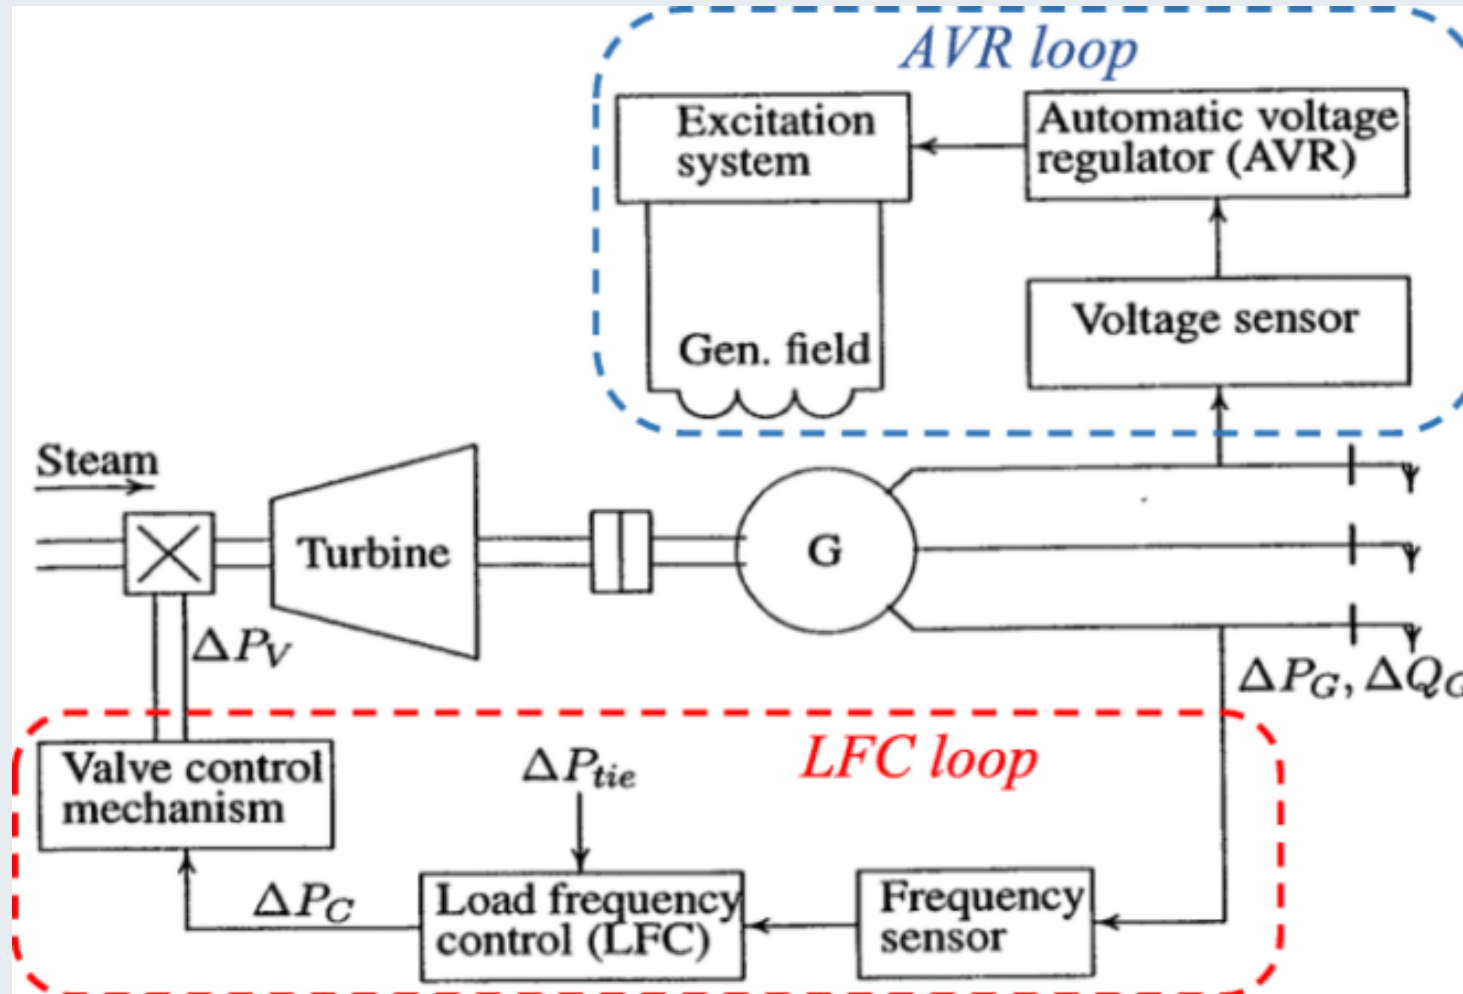

Figure 1. AVR control loop.
- DC excitation, AC excitation or Brushless excitation scheme is to feed the field winding with direct current so that the main flux in the rotor is generated, which is presented in Fig.1.
URL: <https://www.researchgate.net/publication/359877348/figure/fig1/AS:1174762151780352@1657096531149/control-systems-of-synchronous-generator.ppm>
Url: <https://www.researchgate.net/publication/329883863/figure/fig1/AS:707174099603456@1545614852641/Schematic-mechanism-of-brushless-excitation-synchronous-generator.png>
URL: <https://www.researchgate.net/publication/367445648/figure/fig1/AS:11431281115270492@1674828275475/Simplified-model-of-the-AVR-loop.jpg>